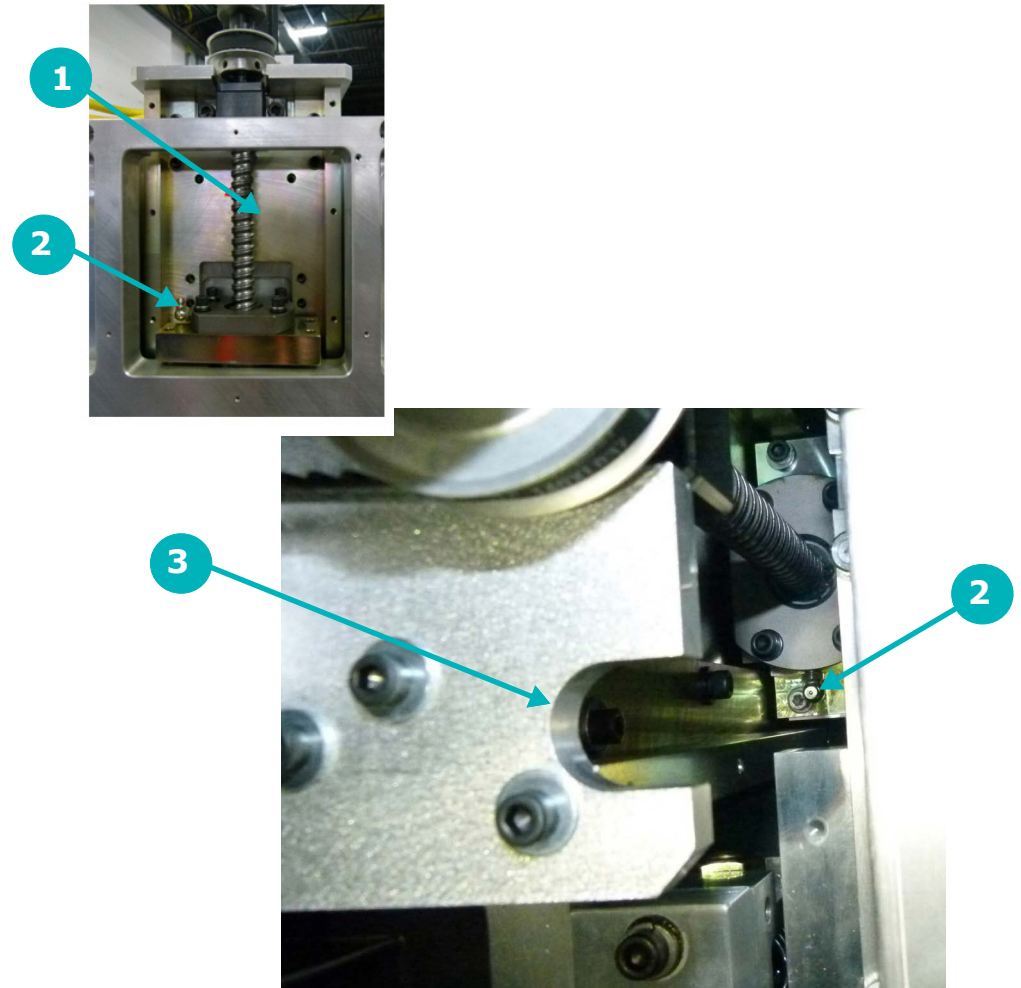

Figure 2-73: Greasing the carriage lift assembly fitting
- F. Insert grease gun nozzle through notch, item 3, Figure 2-73, and connect nozzle to grease fitting, item 2.